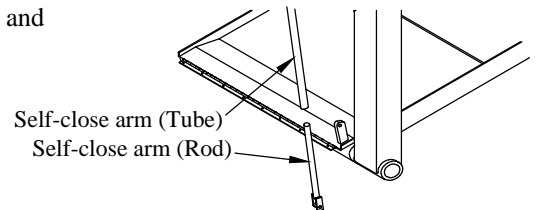

Figure 25: Self-close arm parts.
8. **Remove** the rod from the tube (Figure 25).